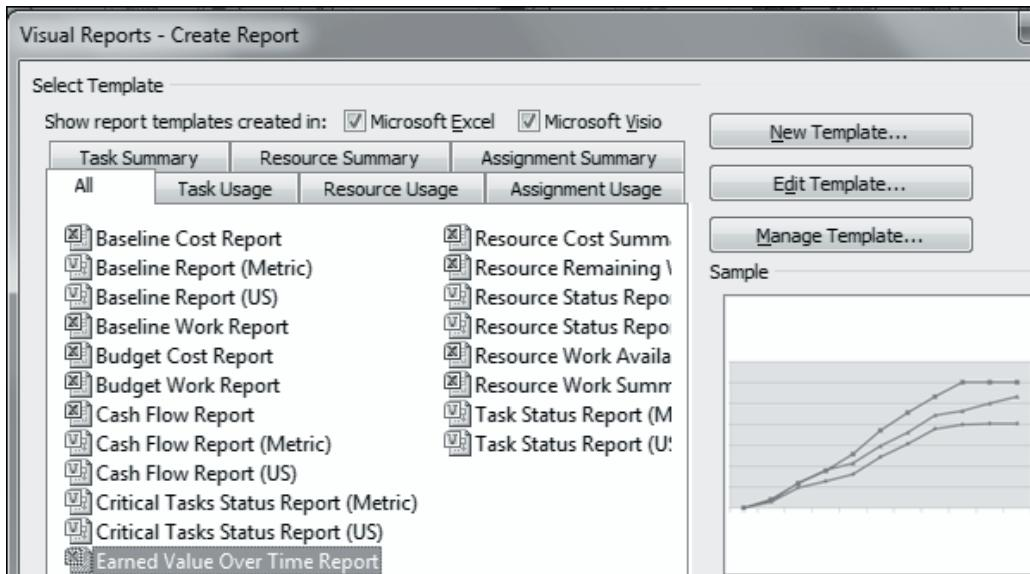

Figure 12.8: Visual Reports - Create Report Dialog Box
1. Open the project and on the **Project** tab, click **Visual Reports** on the **Reports** group. This displays **Visual Reports - Create Report** dialog box as shown in figure 12.8.